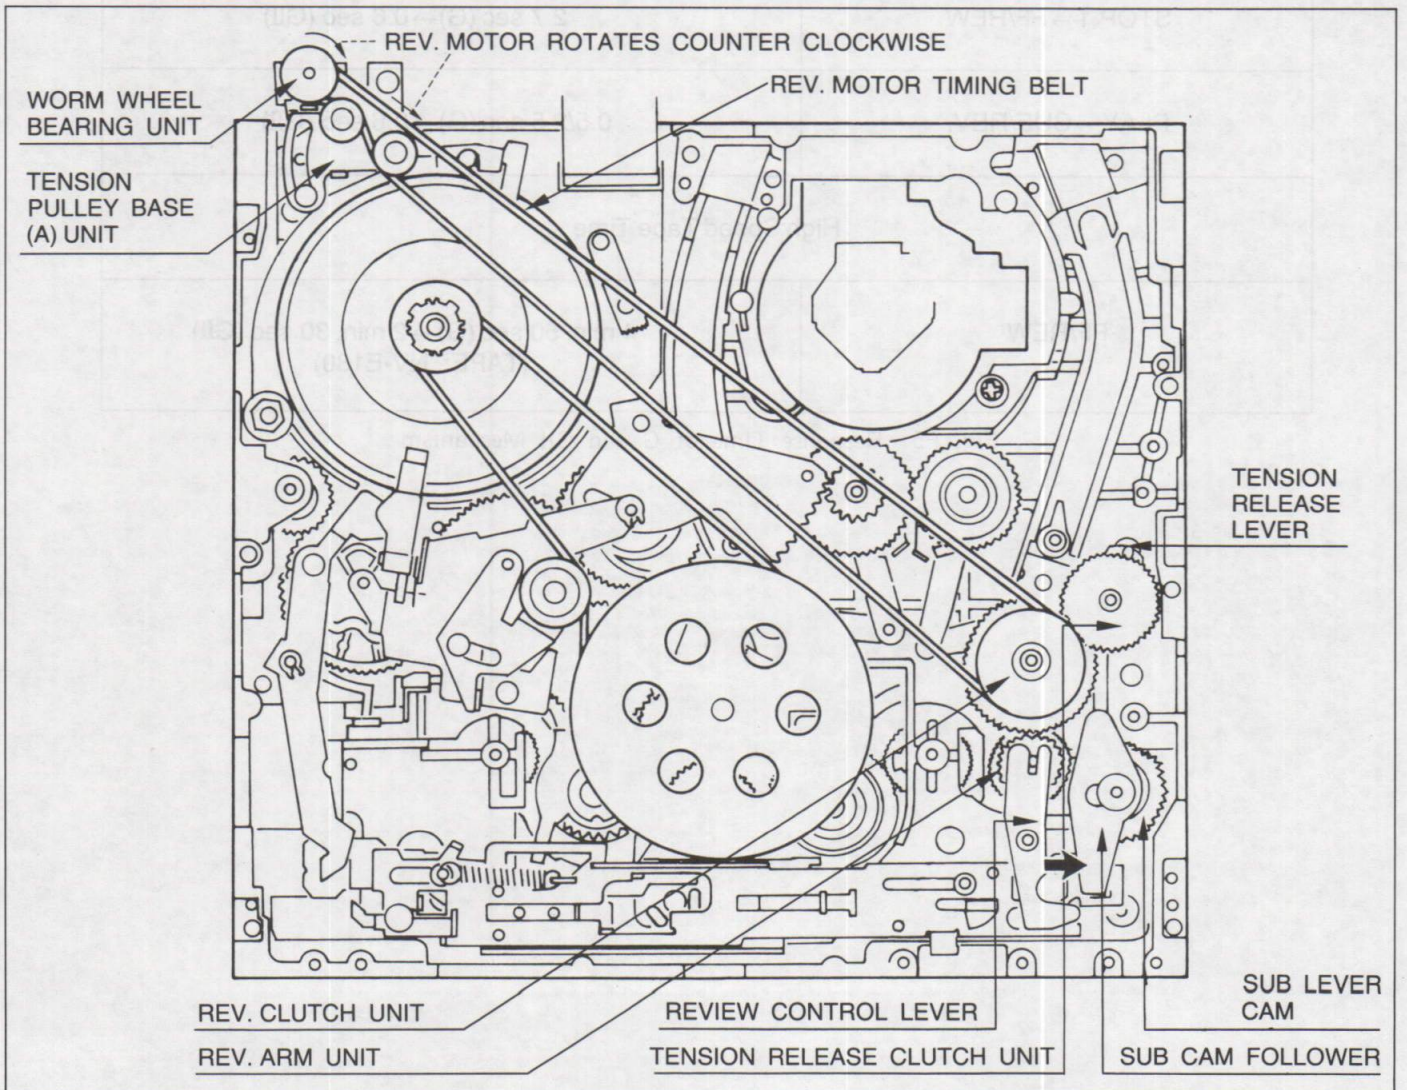

Fig. F7 Bottom View of GII Mechanism
* To confirm the STOP1 mode (GII mechanism) Press the Sub Cam Follower to arrow mark direction as indicated in Fig.F7 and turn the capstan motor to both of forward and reverse direction. If takeup reel table is rotated when capstan is rotated forward and if supply reel table is rotated when capstan is rotated reverse, that is STOP 1 position.